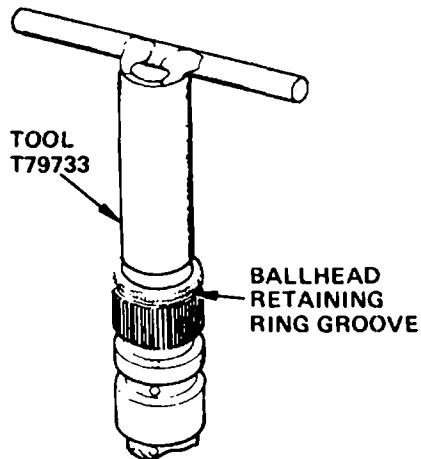

Figure 11-16. Governor Seating Retaining Ring
(10) Complete seating retaining ring into inside groove with seating tool (Special Tool T79733): refer to figure 11-16.